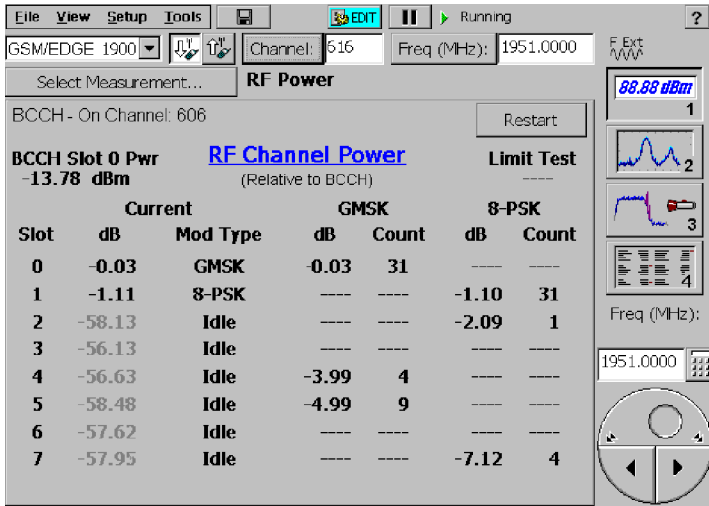

Figure 3-38: GSM/EDGE Relative RF Power measurement
- Relative (to BCCH slot 0): displays all slot power measurement values relative to the BCCH Slot 0 power measurement. Measurement values are displayed in dB units. Figure 3-38 shows a typical RF Power measurement with RF Channel Power set to Relative.